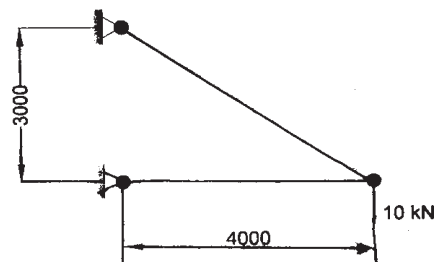

Fig.4
- Q10) a)** A two member truss is as shown in Fig. 4. The cross sectional area of each member is 200 mm^2 and the modulus of elasticity is 200 GPa. Determine the deflection, reactions and stresses in each of the members. [8]